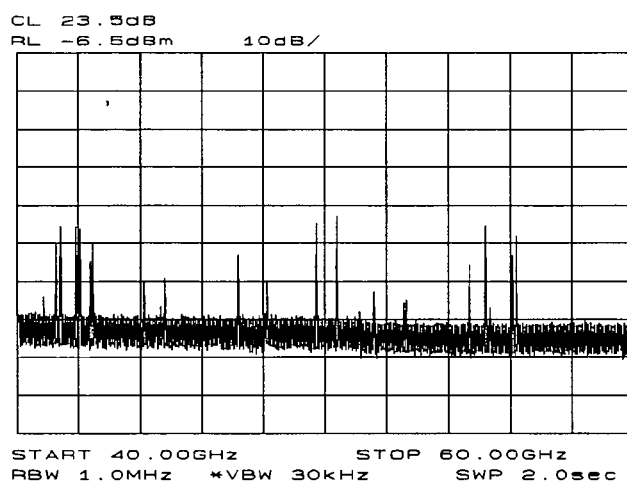

Figure 3-33. Signal Responses Produced by a 50 GHz Signal in U Band
3. The IF output of a harmonic mixer contains many mixer products (frequencies of $LO \pm \text{source}$, $2LO \pm \text{source}$, $3LO \pm \text{source}$... $nLO \pm \text{source}$). As a result, within a single harmonic band, a single input signal can produce many responses, only one of which is valid. These responses come in pairs, where the members of the valid pair are spaced 621.4 MHz apart (see Figure 3-33) and the right-most member for the pair is the correct response (for this analyzer, the left member of a pair is not valid).